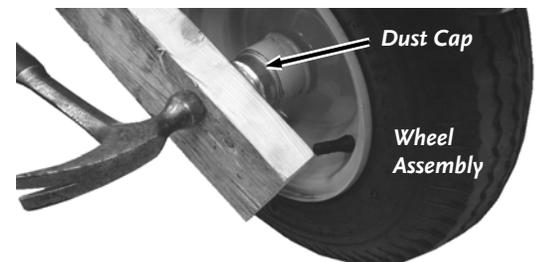

Figure 38
11. Place the Dust Cap onto the Wheel Assembly and secure it by placing a piece of wood over it and pounding lightly with a Hammer until it is seated against the lip (**Figure 38**).